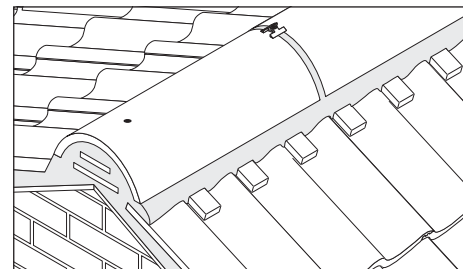

Fig. 6 – Secure end tile
- 7 End ridge tiles need to be secured by drilling a 6mm dia. hole through the ridge tile, 100mm from the open end, and driving one of the 75mm long s/steel screws supplied into the ridge batten (Fig. 6).